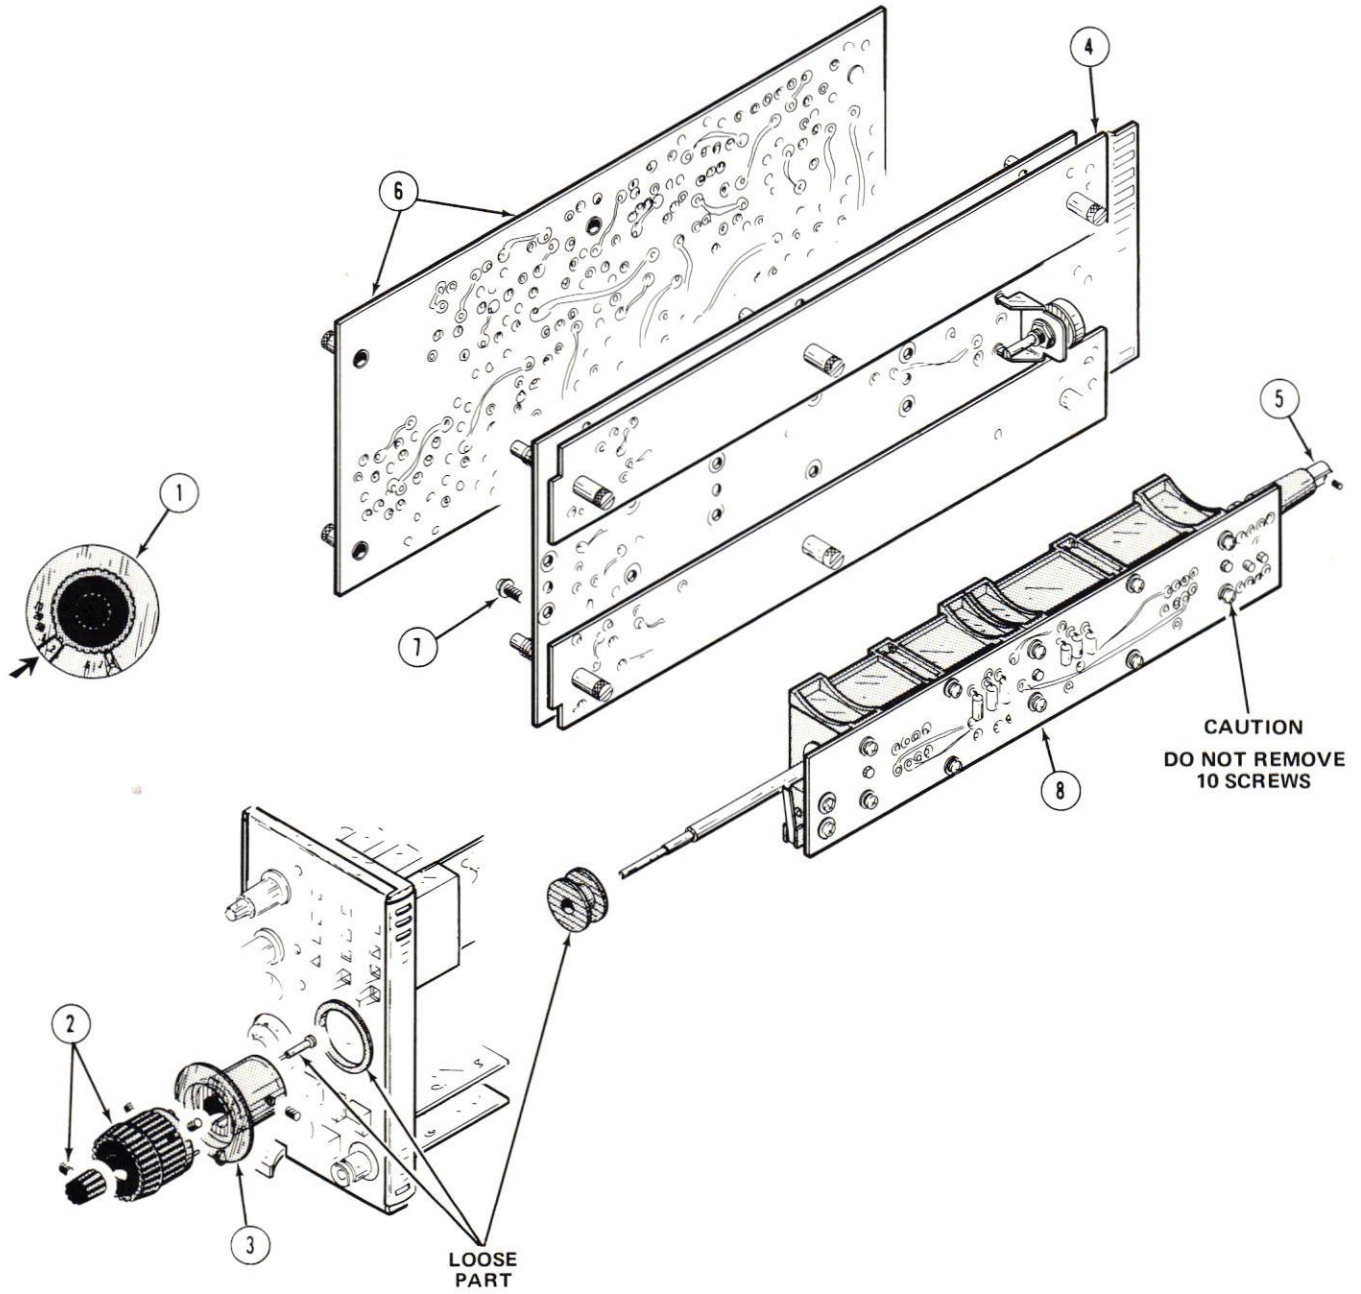

Fig. 3-2. Cam-switch removal.
**Switch Replacement.** Pushbutton switches and a cam-type switch are used in the 7B92. It is recommended that both switch types be replaced as a unit. Refer to Fig. 3-2 for cam-switch removal and to Fig. 3-3 for pushbutton switch removal.